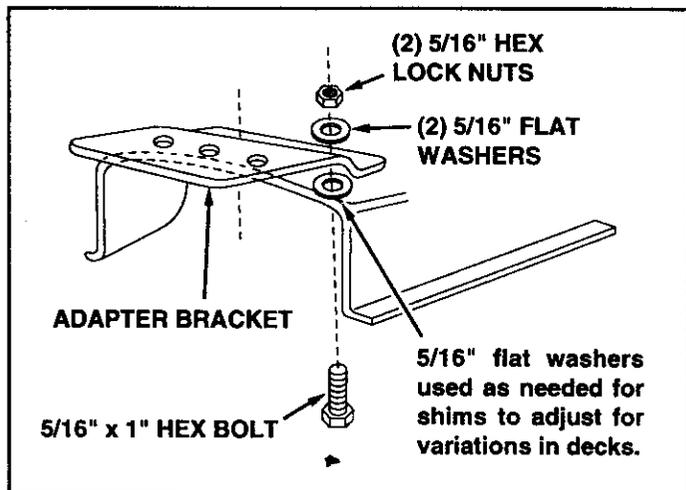

FIGURE 31
- Assemble the adapter bracket to the deck using two 5/16" x 1" hex bolts, 5/16" flat washers and 5/16" hex lock nuts. See figure 31.
NOTE: It may be necessary to use extra 5/16" flat washers to shim under the bracket next to the deck surface. Ten extra washers have been furnished as shims. See figure 31.